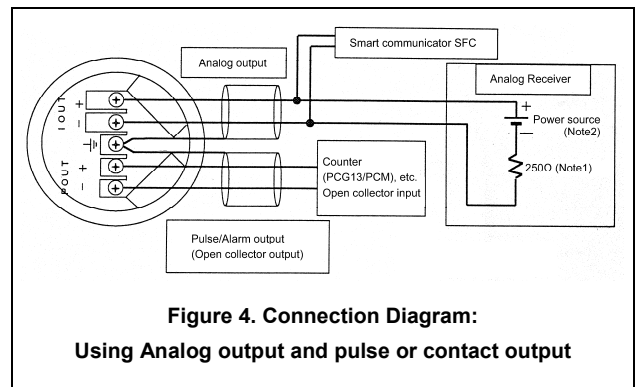

Figure 4. Connection Diagram:
1. Follow Figure 4 to wire cables for the flowmeter, power supply, and external equipment.